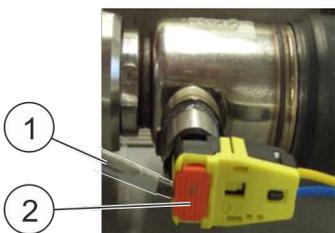

Fig. 52: Ignition plug
8. ▶ Push out the red arrest (Fig. 52/2) at the ignition plug with a small screwdriver (Fig. 52/1).